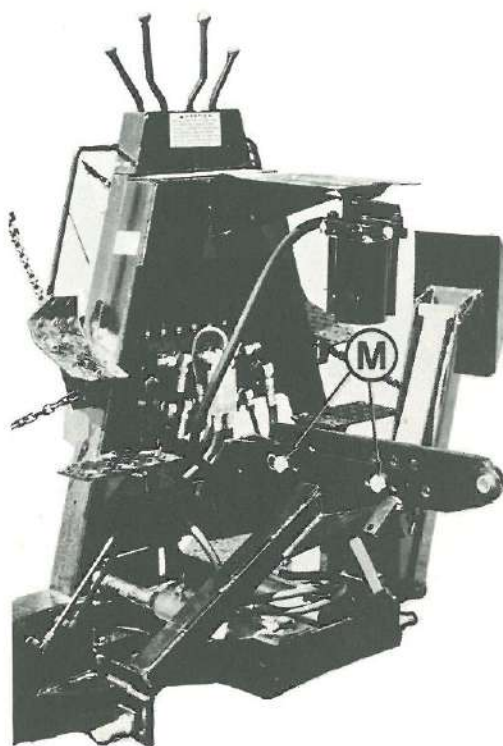

Figure 7
26. Mount the top link of the backhoe to the main frame of the backhoe. To do this maneuver the backhoe until you can align the holes in the backhoe frame (at M of Figure 7) with a set of holes in the top link. It is important to pick a set of holes that places the backhoe in a vertical position in relationship to the ground.